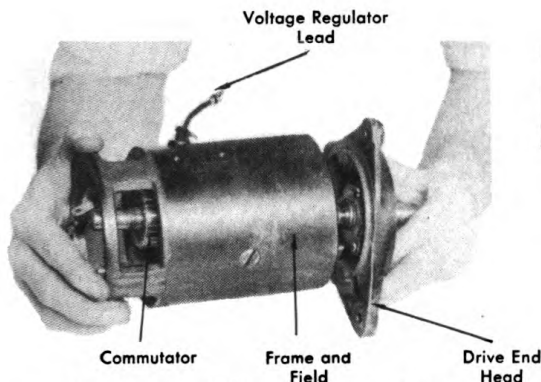

Figure 235. Removing Armature from Generator Frame.
6. Pull the armature, the drive end head, and the pulley from the generator. See Figure 235.